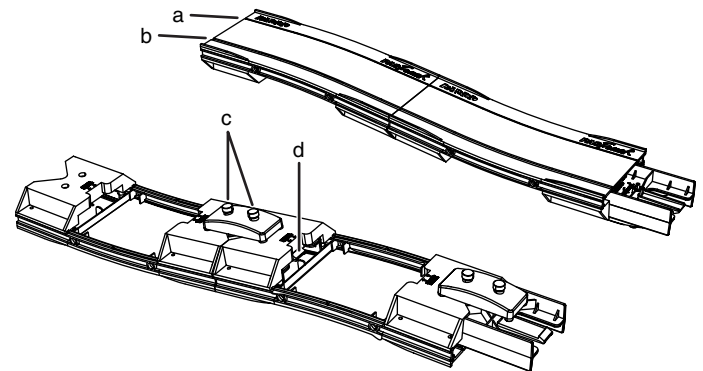

Figure 1
3. Turn the track upside down and tighten the screws on the connector (part c in Figure 1).
2. Press and hold the release tabs on the bottom of the track (part d in Figure 1).